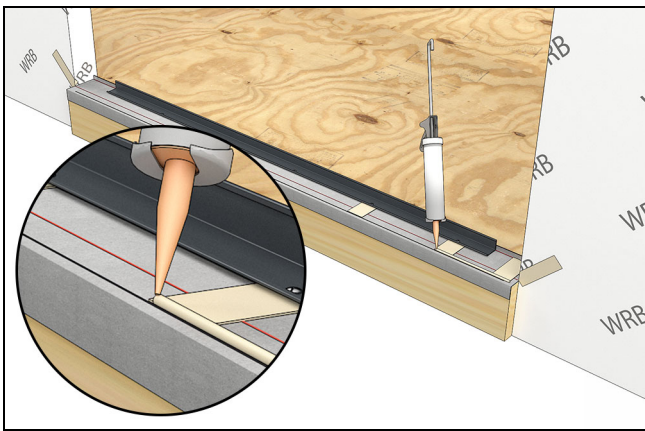

Figure 34 Performance/Low profile sill
1. Performance/Low Profile Sills: Apply a bead of sealant to the interior side of the line you marked earlier. See Figure 34.